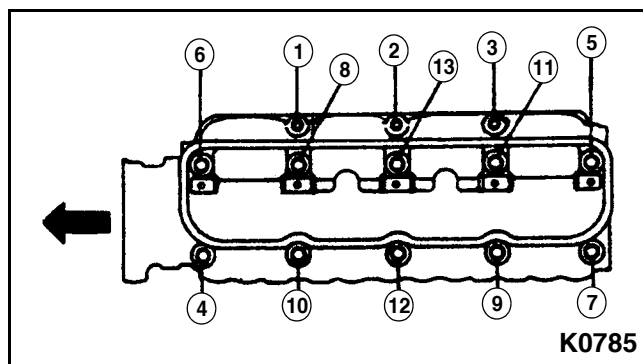

Figure 3-118
7. Loosen cylinder head mounting bolts in three steps in sequence as shown. **See Figure 3-118.**